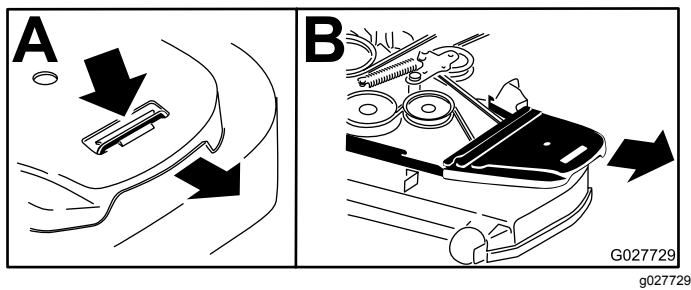

Figure 92
5. Remove the plastic belt cover (Figure 92).
4. Remove the belt covers (Figure 92).